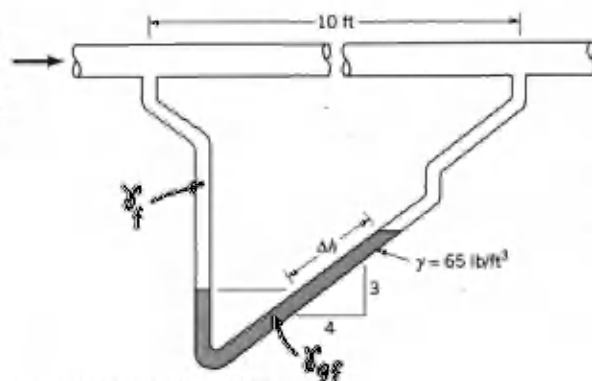

FIGURE P6.16R
6.16R (Viscous flow) A viscous liquid, having a viscosity of  $10^{-4}$  lb-s/ft2 and a specific weight of 50 lb/ft3, flows steadily through the 2-in.-diameter, horizontal, smooth pipe shown in Fig. P6.16R. The mean velocity in the pipe is 0.5 ft/s. Determine the differential reading,  $\Delta h$ , on the inclined-tube manometer.